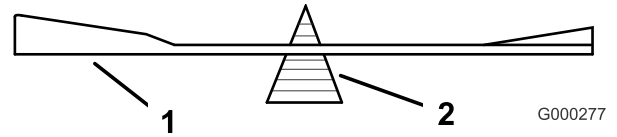
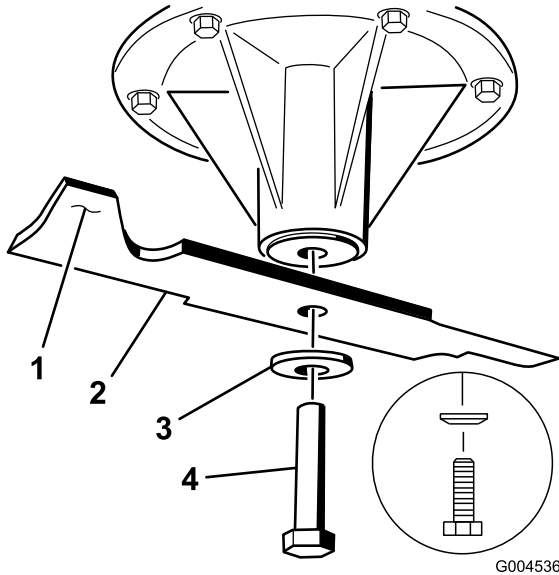

Figure 97
Figure 98
2. Check the balance of the blade by putting it on a blade balancer (Figure 97). If the blade stays in a horizontal position, the blade is balanced and can be used. If the blade is not balanced, file some metal off the end of the sail area only (Figure 98). Repeat this procedure until the blade is balanced.
1. Install the blade onto the spindle shaft (Figure 98).
2. Install the spring disk and blade bolt. The spring disk cone must be installed toward the bolt head (Figure 98). Torque the blade bolt to 85-110 ft-lb (115-150 N-m).